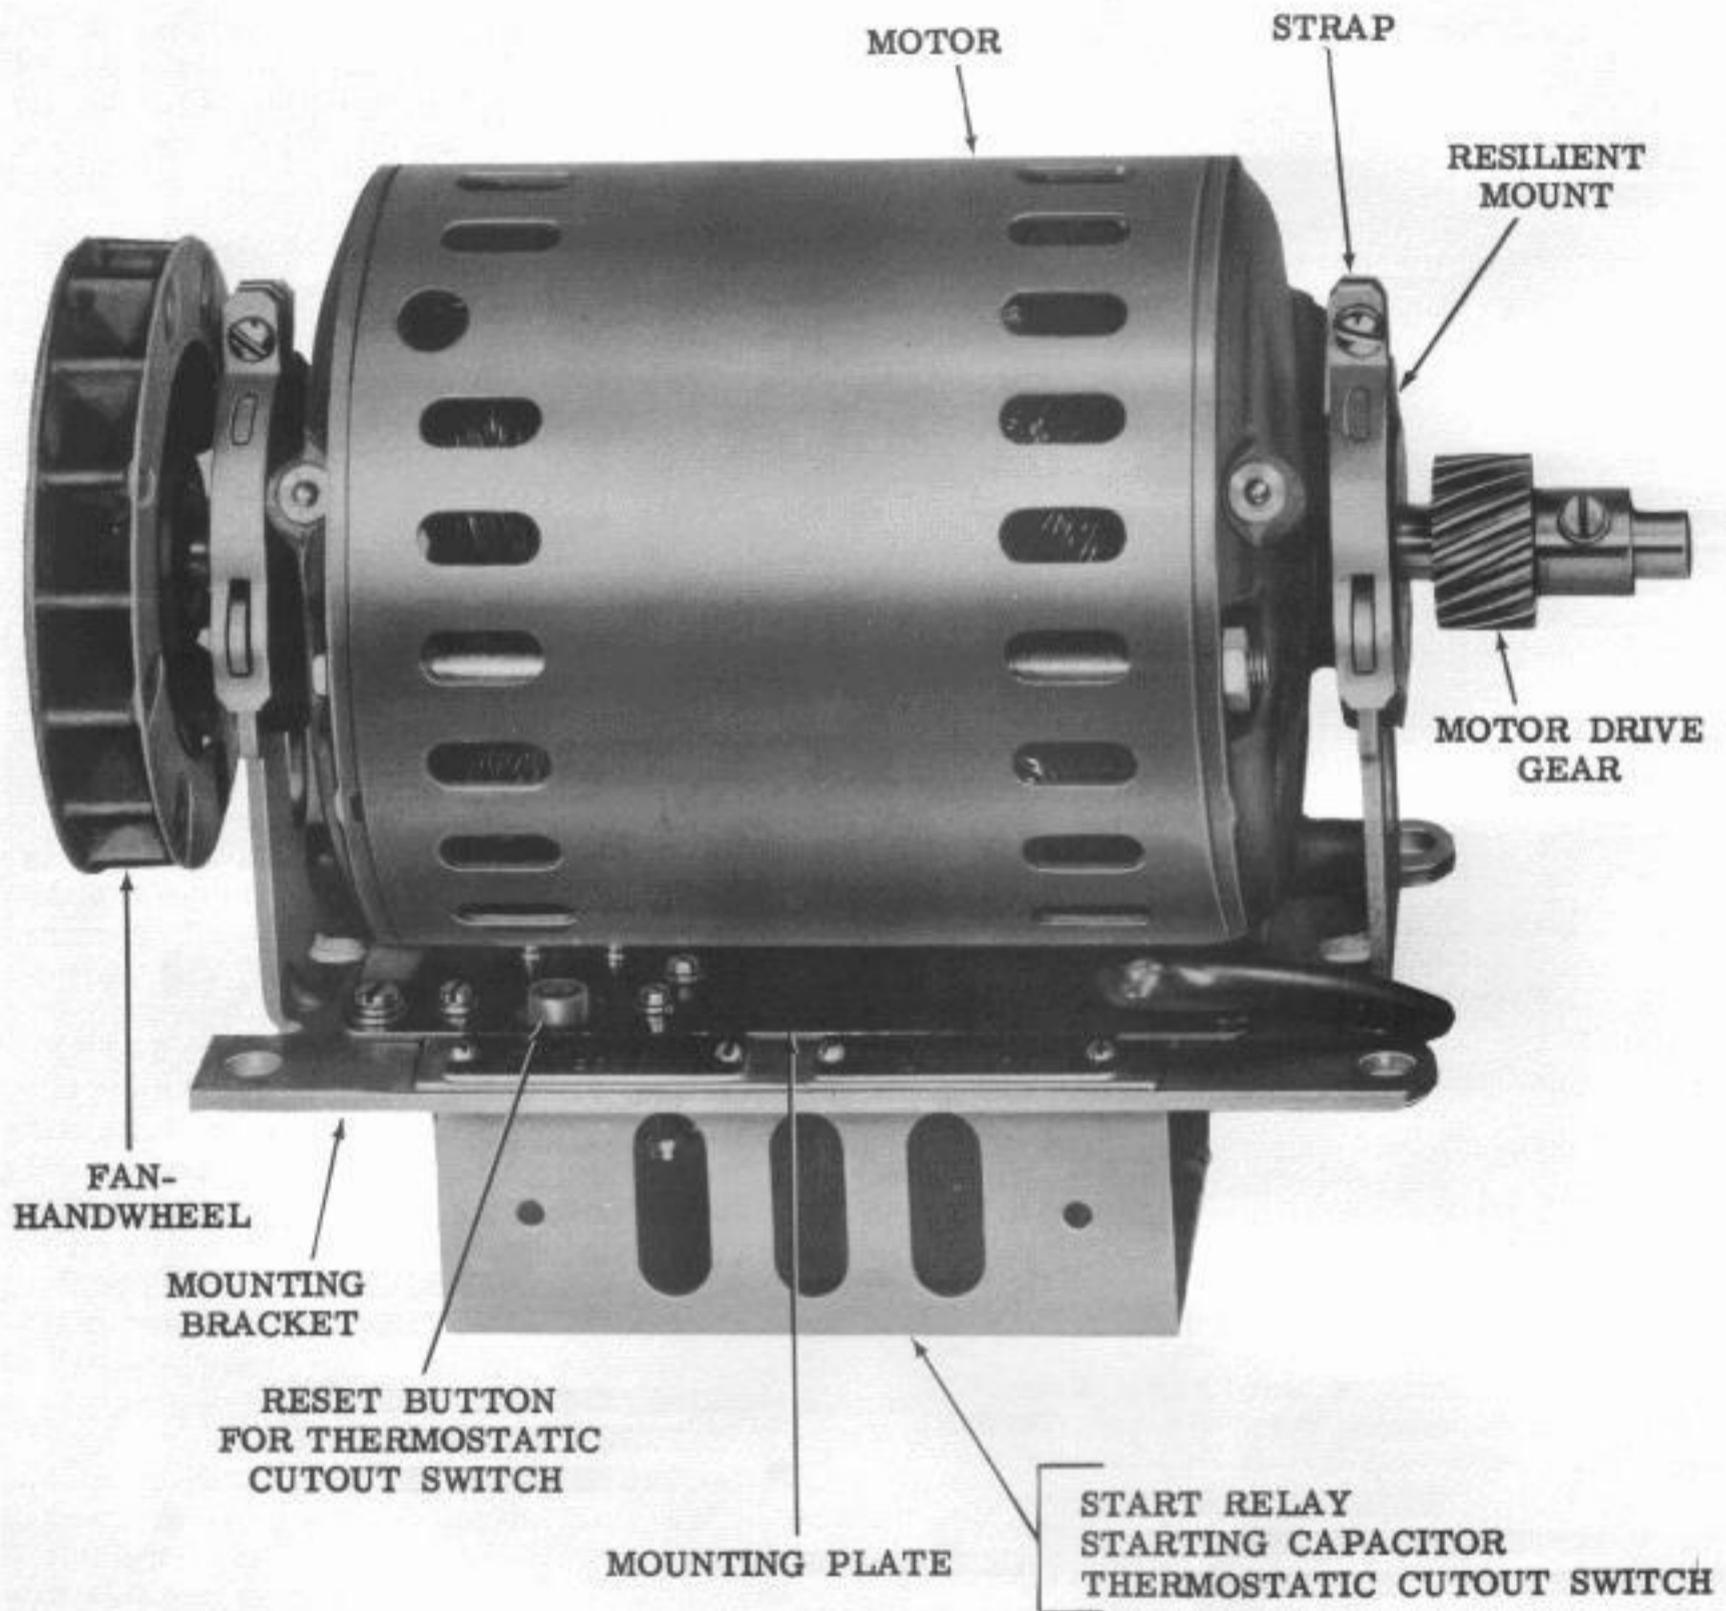

Figure 1 - 28 Synchronous Motor Unit
1.02 The synchronous type motor units (Fig. 1) are available in 1/20 and 1/12 horsepower ratings. These motor units must be operated from a standard, single-phase, regulated power source with specifications as listed in Table 1.
SYNCHRONOUS MOTOR UNITS (Fig. 1)
SYNCHRONOUS MOTOR UNITS (Figs. 1 and 3)